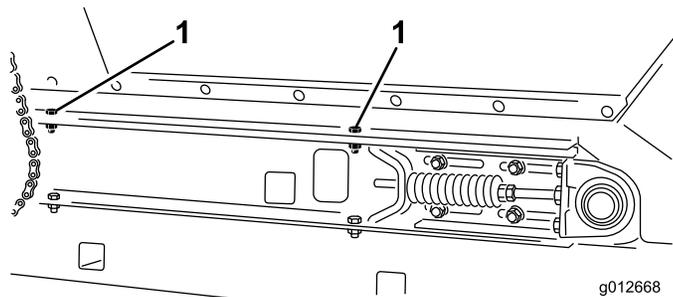

Figure 23
- 4. Remove (2) capscrews, washers and nut, on each side of machine, securing hopper to slider bed (Figure 23).